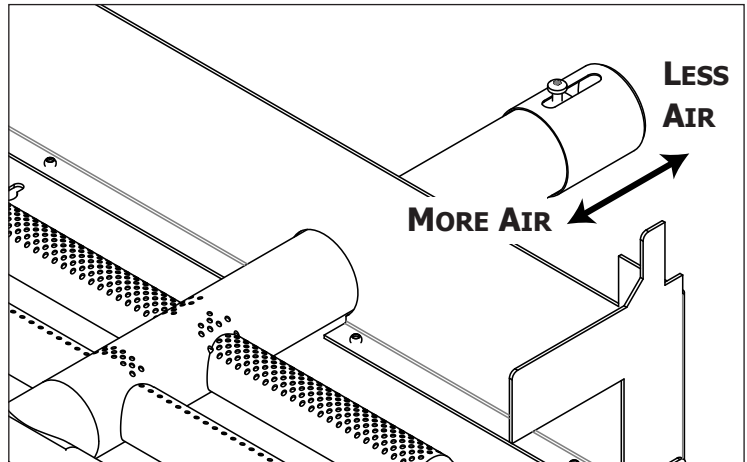

Figure 11: Burner Shutter Adjustment
2. At the back of the burner (where the burner connects to the burner orifice), there is a single philips head screw that should be loosened. This will allow for adjustment of the burner cap (see Figure 11).